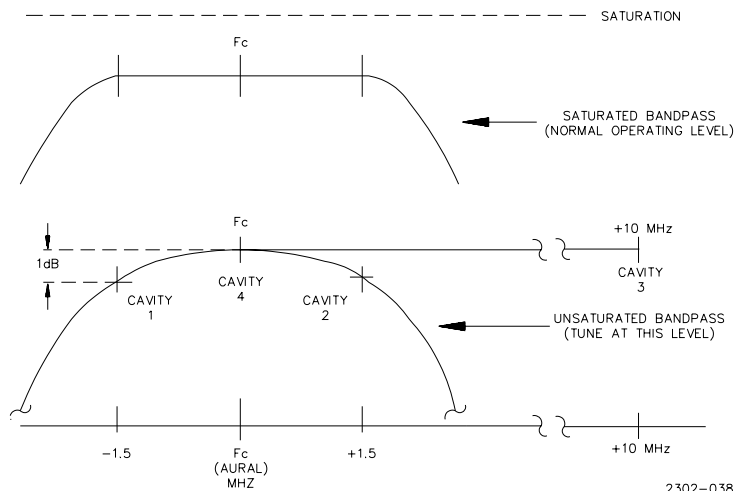

Figure 5-11. Aural Cavity Bandpass and Tuning
- h. Readjust tuning and coupling of cavities 1 and 2 for a swept response similar to the lower curve of Figure 5-11. Adjust the tuning of cavity 4 for maximum power as seen on the Remote Tuning Meter box. At this time the frequency response adjustment need only be a coarse adjustment; adjusting only to assure that a rough bandpass shape can be produced.
- i. Increase power as much as possible without going into saturation. If the swept signal begins to flatten as power is increased, the tube is being driven to saturation. See Figure 5-11.
- j. Re-adjust the response so it looks like the lower curve of Figure 5-11.